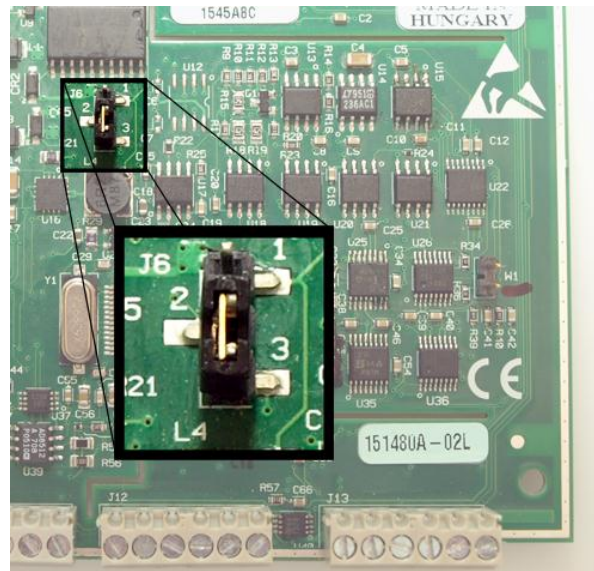

Figure 11. Location of J6 jumper
- Configure jumper **J6** for either pull-up, pins 1-2, or pull-down, pins 2-3. The jumper is configured by default for pull-up. Figure 11 shows the location of the jumper on the board.